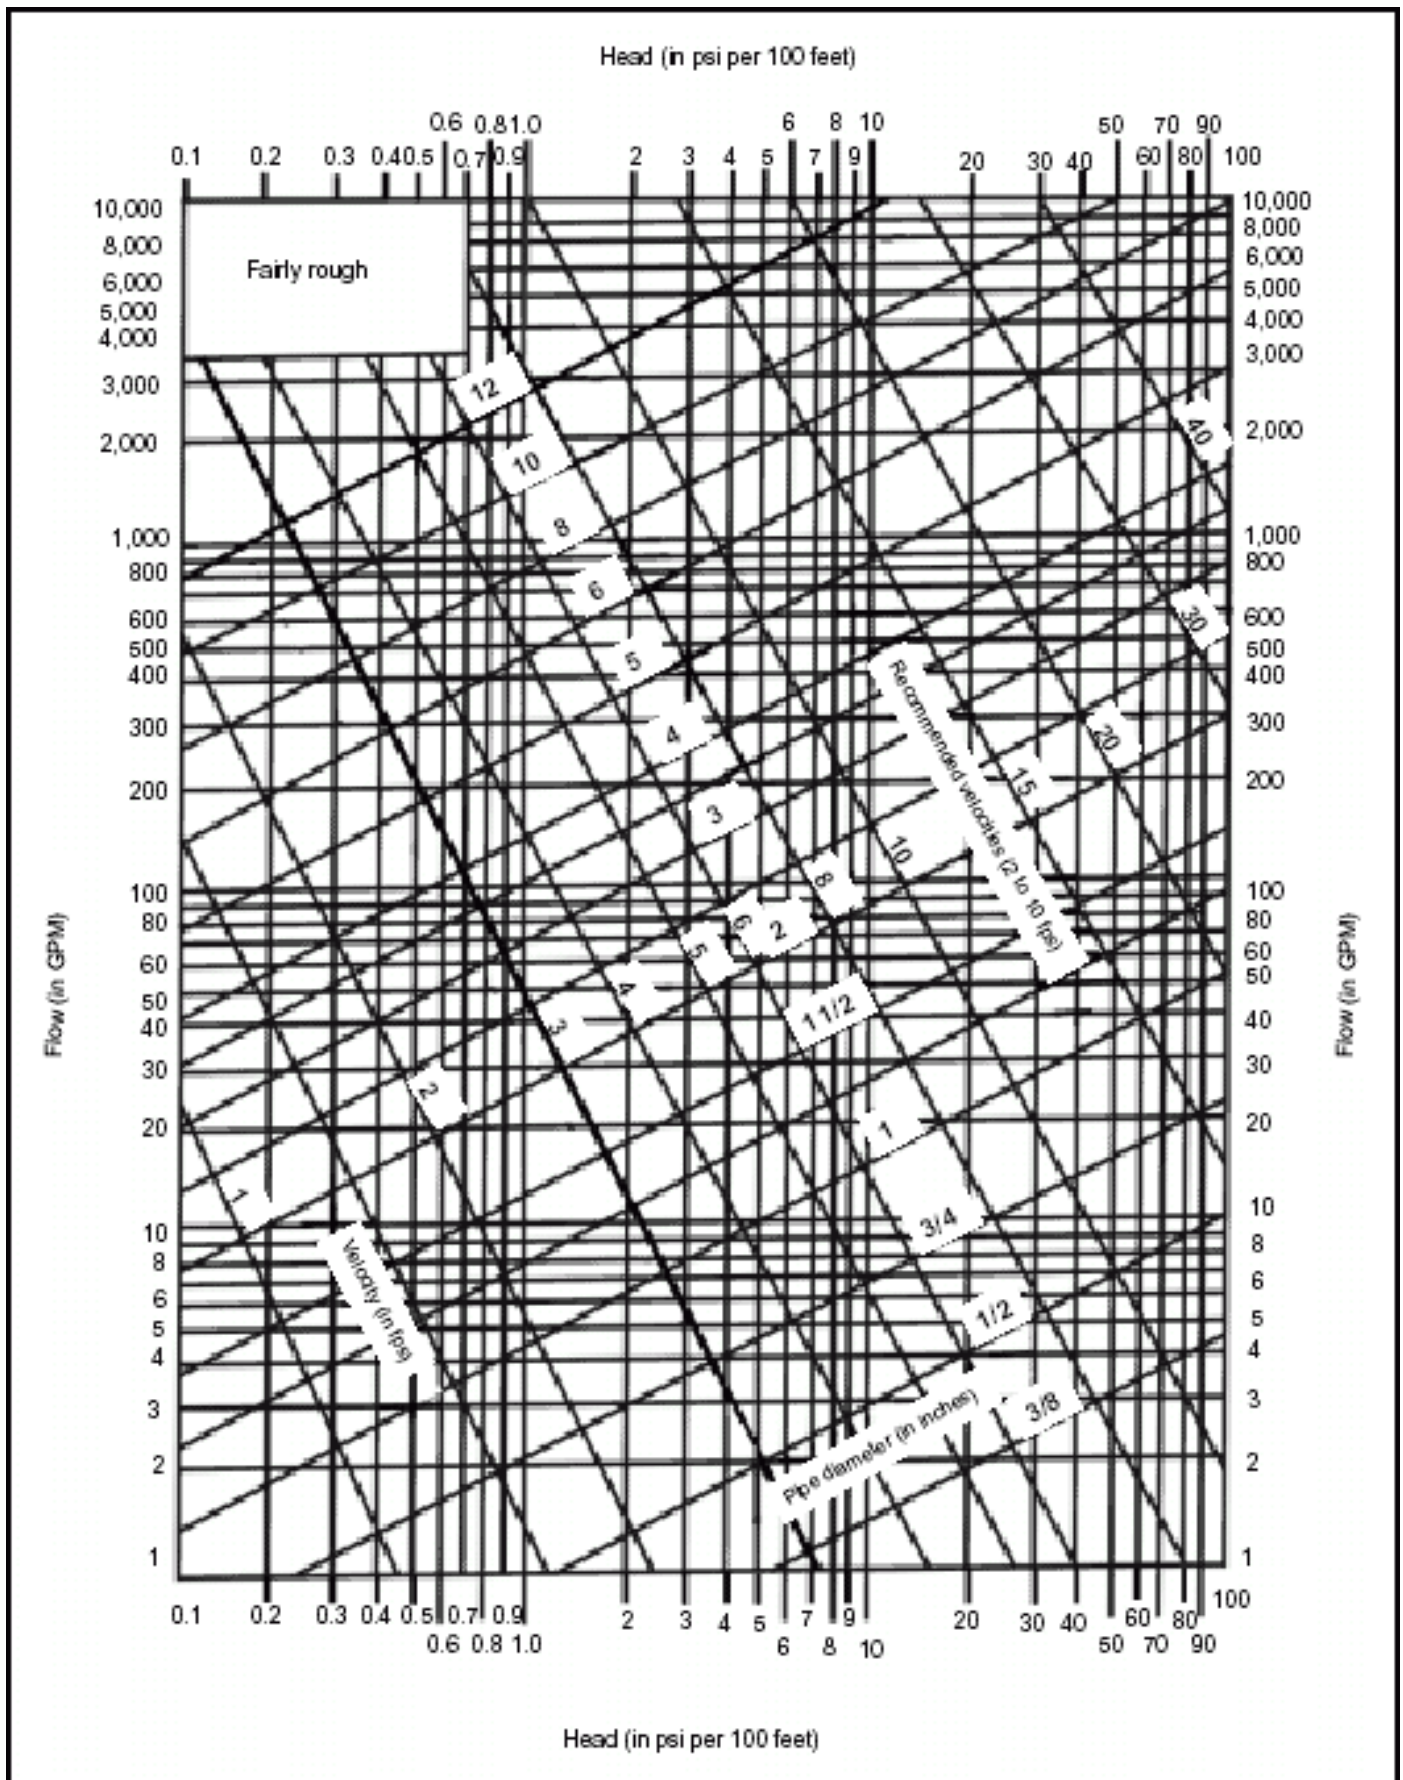

Figure D-3. Friction Loss, Fairly Rough Pipe
Step 5. Select a 6-inch diameter pipe and a velocity of 2.6 fps (intersection of selected pipe and Q). See Figure D-3.